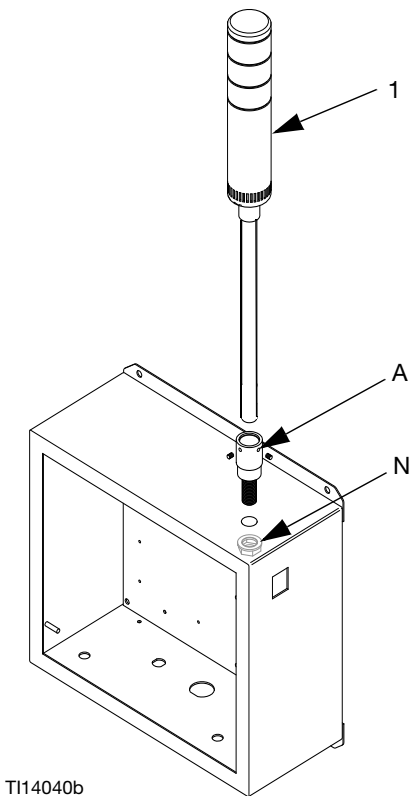

FIG. 1: Install Beacon on EasyKey™
- 1. Feed wires through the hole in adapter (A) and secure the adapter to beacon (1) with set screws.
- 2. Remove the 3/4 in. (19 mm) knockout on top of the EasyKey. Feed the wires through the hole and secure the beacon (1) with the jam nut (N) and washer on the inside of the box. See FIG. 1.
1. Feed wires through the hole in adapter (A) and secure the adapter to beacon (1) with set screws.
2. Remove the 3/4 in. (19 mm) knockout on top of the EasyKey. Feed the wires through the hole and secure the beacon (1) with the jam nut (N) and washer on the inside of the box. See FIG. 1.